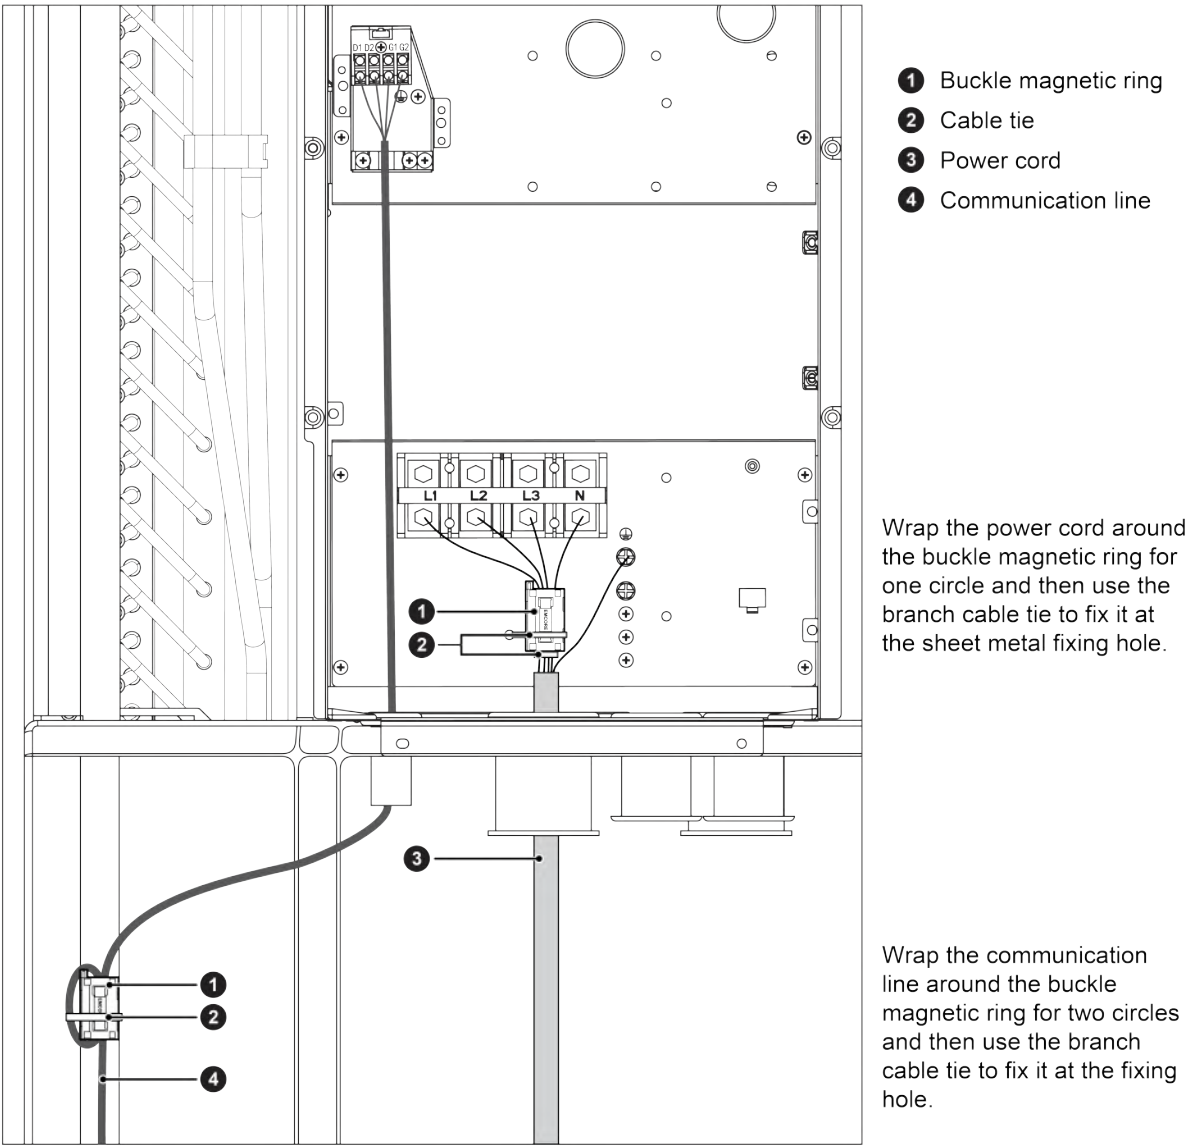

Fig.3.8.4
- (6) For Model 400, Model 450 and Model 504 unit. The communication line between the indoor unit and the outdoor unit should be wound twice around the buckle magnetic ring, that is the communication line passes through the buckle magnetic ring twice. See the left part of Fig.3.8.4 for the illustration.